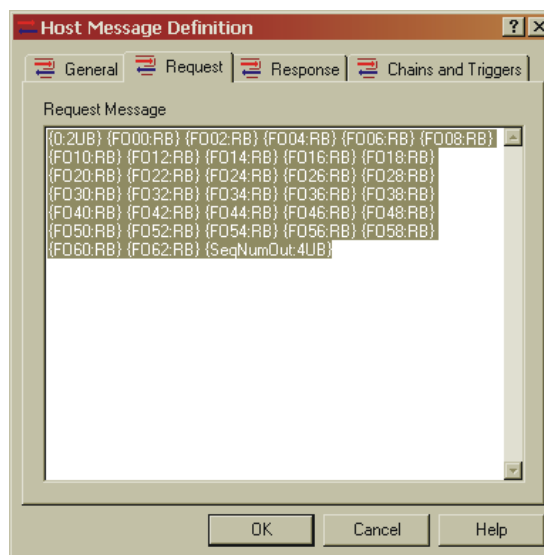

FIG. 222: HOST MESSAGE
- Step 16. If you do not have access to the DPD files, click in the text field and enter the following information. (See Fig. 222)
- Step 17. Click on the Chains and Triggers tab. (See Fig. 222)